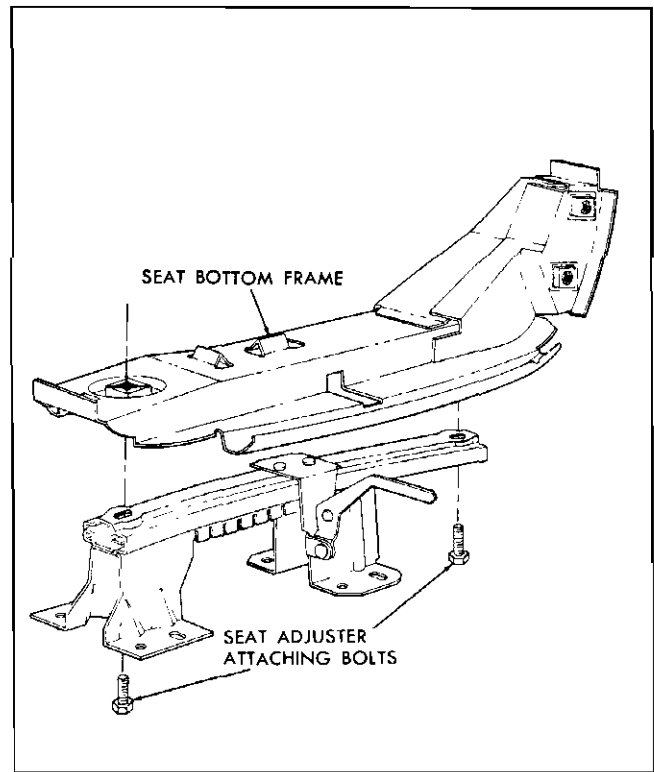

Fig. 5-1 Manual Seat Adjuster
4. Remove adjuster-to-seat bottom frame front and rear attaching bolts and remove seat adjuster from seat assembly (Fig. 5-1).